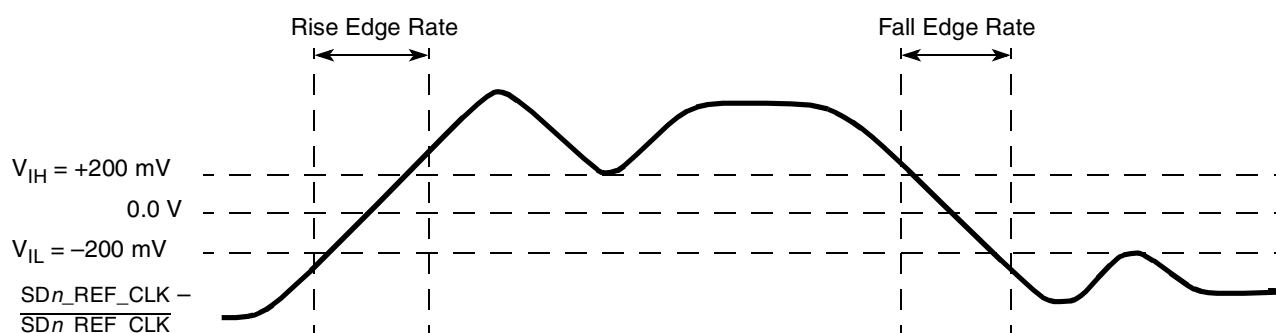

Figure 66. Differential Measurement Points for Rise and Fall Time
3. Measured from -200 mV to +200 mV on the differential waveform (derived from SDn_REF_CLK minus $\overline{\text{SDn_REF_CLK}}$). The signal must be monotonic through the measurement region for rise and fall time. The 400 mV measurement window is centered on the differential zero crossing. See Figure 66.